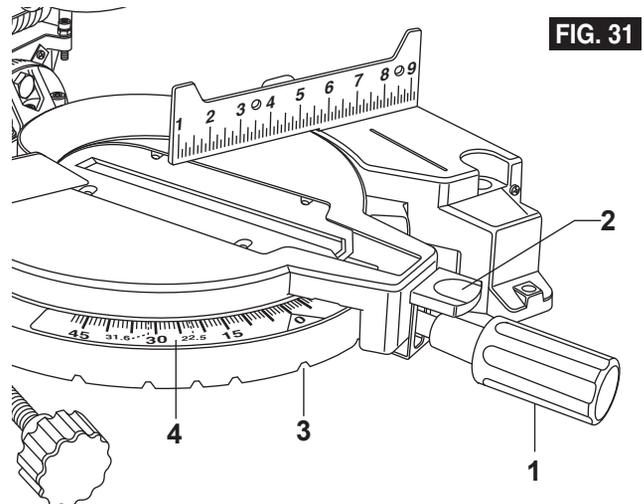

FIG. 31
1. Loosen miter lock knob **1**. Press the miter detent trigger **2** and move the saw to the desired angle, using either the detents **3** or the miter scale **4**. Tighten miter lock knob (Figure 31).